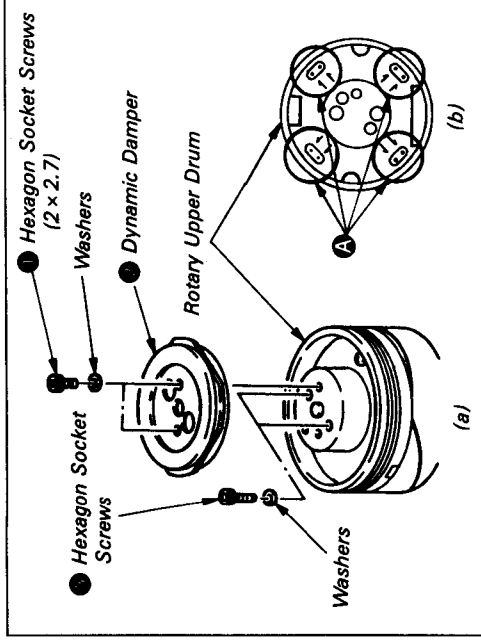

Fig. 7-45.
- 1) Remove two hexagon socket screws (2 × 2.7) ❶ and dismount the dynamic damper ❷. (See Fig. 7-45.)
- 2) Suction solder at all of the soldered eight positions ❸. Check that the printed wiring board and pins jutting out from below freely move using tweezers, or other tool. (See Fig. 7-45.)
- 3) Remove the two hexagon socket screws (2 × 5) ❹. (See Fig. 7-45.)
- 3) Remove Jig ❸, lightly push the rotary upper drum by hands. If the rotary upper drum does not go in to the bottom, alternately tighten the two hexagon socket screws (2 × 5) ❺ by hand and fix them temporarily. (See Fig. 7-45, 7-48.)
- 4) Reinsert the Jig ❸ in the positioning hole ❹ and check that the jig can be inserted smoothly. (When the jig cannot be inserted, loosen the two hexagon socket screws (2 × 5) ❺ and slide it inserting a clock screw-driver in the hole.)
- 5) Tighten the two hexagon socket screws (2 × 5) ❺.
- 6) Solder the eight positions ❸. (See Fig. 7-45.)
- 7) Tighten the two hexagon socket screws (2 × 2.7) ❶ reversing the screw removal procedure and remount the dynamic damper ❷. (See Fig. 7-45.)